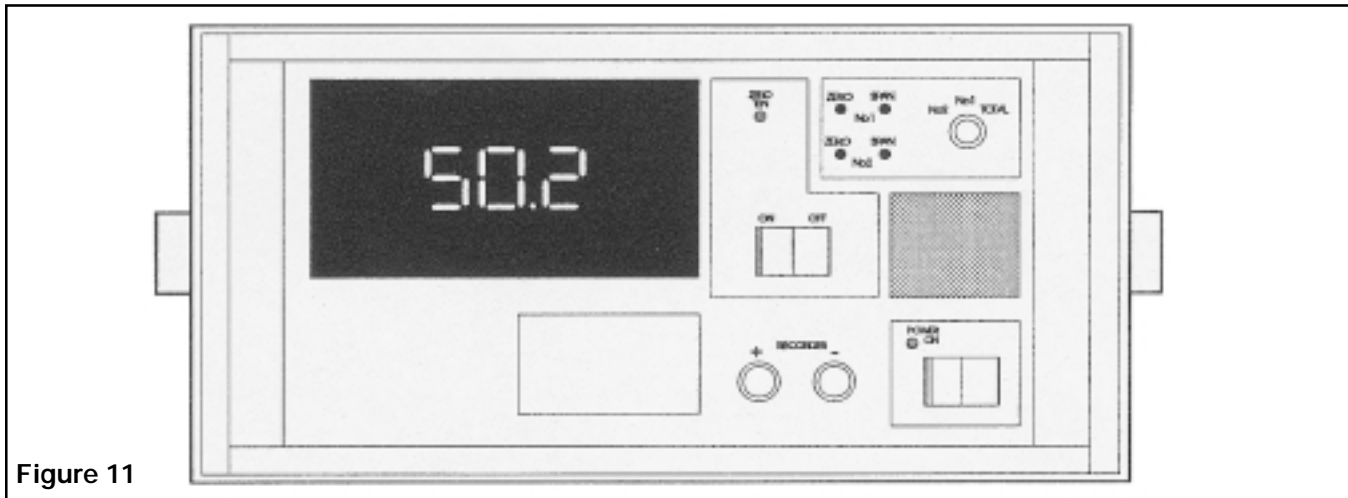

**Figure 10**
1. Thread a rope or narrow web over the sensor roll in the normal web path, making sure that the rope is in the center of the sensor roll. Hang a known weight (weight must be less than the Maximum Full Scale) on one end of the rope. Secure other end of rope to machine with the known weight held off the ground (See Fig. 10).